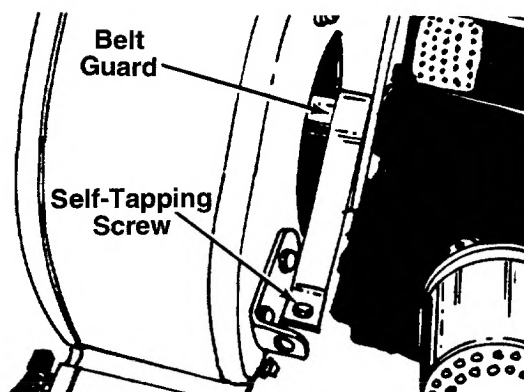

FIGURE 19.
4. Remove two self-tapping screws which hold the belt guard. See figure 19. A 3/8" wrench is required. Lift off belt guard.